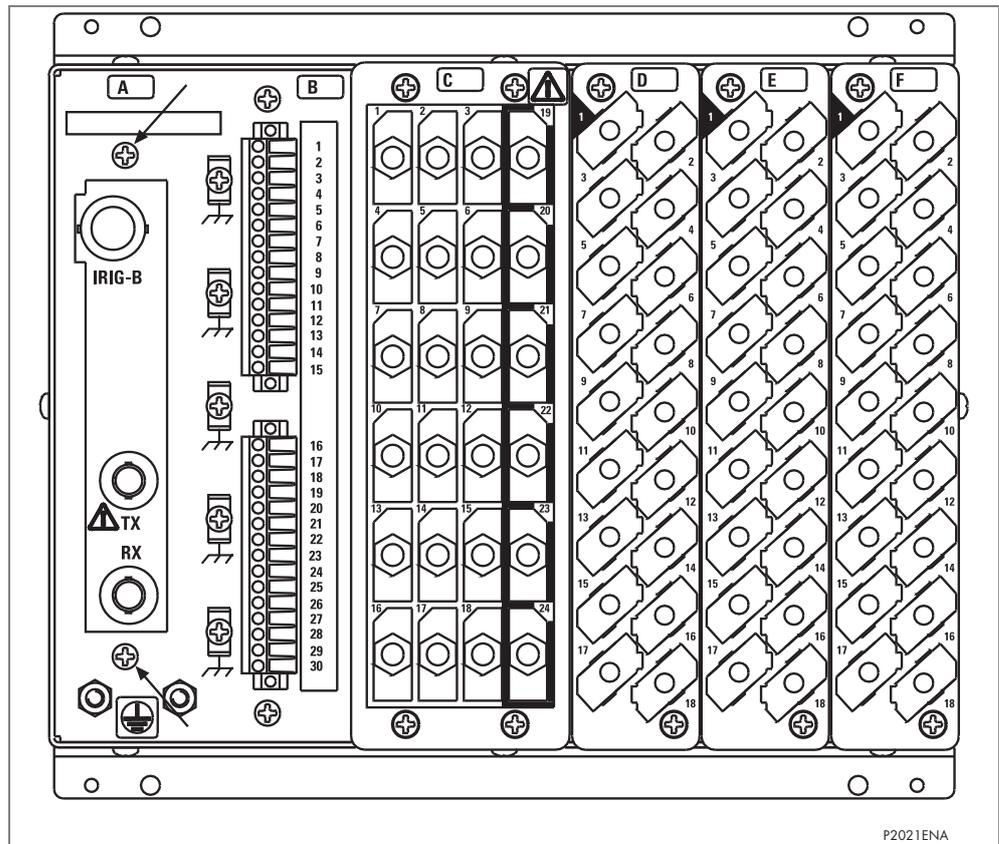

Figure 3 - Location of securing screws for IRIG-B board
2. The board is secured in the case by two screws accessible from the rear of the relay, one at the top and another at the bottom, as shown in Figure 3. Remove these screws carefully as they are not captive in the rear panel of the relay.